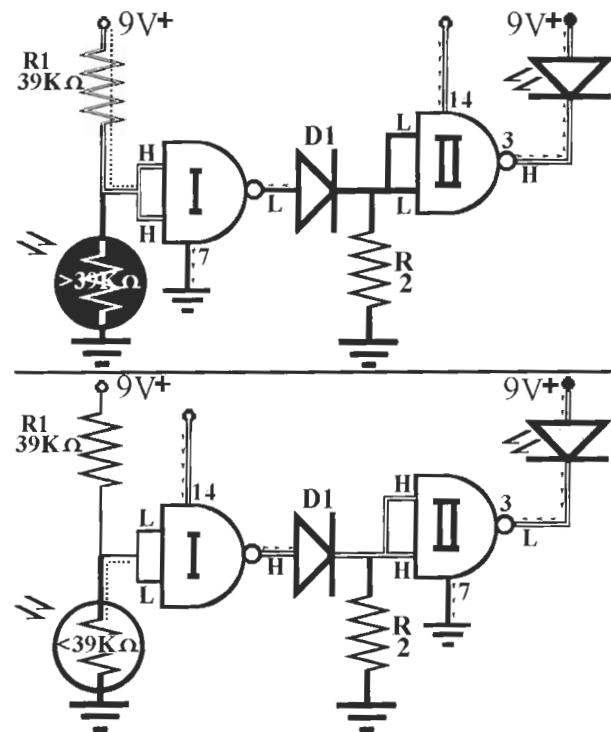

Figure L22-2
- Place the LDR into your circuit as shown in Figure L22-2.